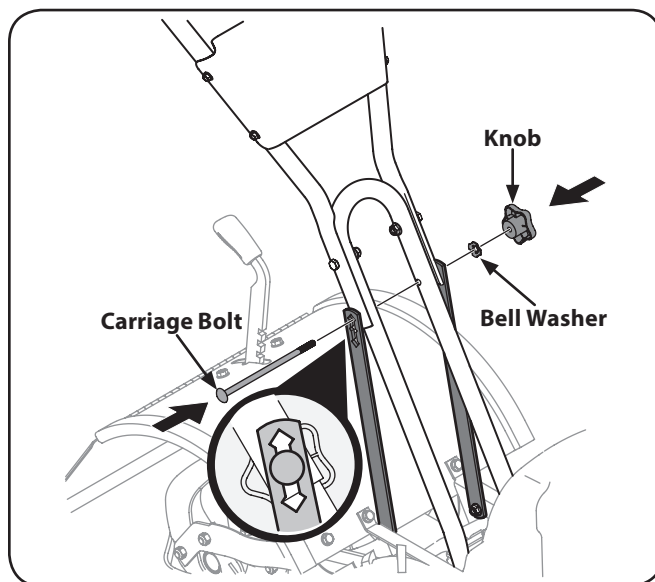

Figure 3-3
- Loosely attach the support brackets to the outside of the handlebar assembly using the carriage bolt, bell washer and knob. Refer to Fig. 3-3.